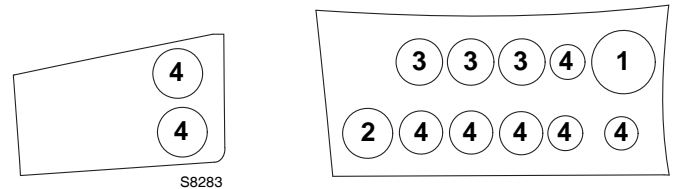

Fig. 6
- 13 Entry for power cables and external leads, see Fig. 6
Key (Fig. 6)